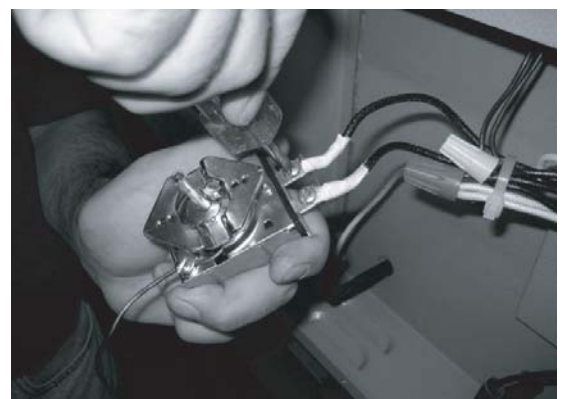

FIG.10
11. Reconnect the two wire leads to the new thermostat terminals. For newer type thermostats this will require replacing the slip-on connectors on the lead wires with the ring connectors provided. In this case, cut off the slip-on connectors, re-strip the wire jacket to a length of 3/8" and crimp secure the ring connectors. Then secure wires leads to the new thermostat's terminals. (FIG. 10)